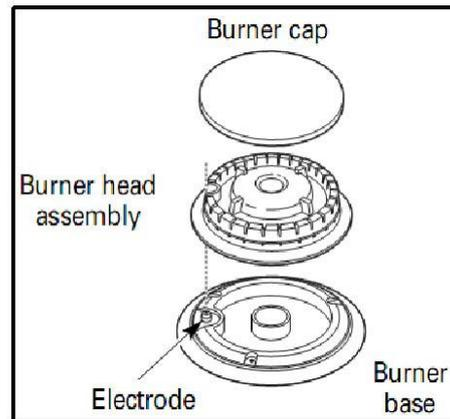

Figure 1
- Place a burner cap on each burner head (see Figure 1 ), matching the cap size to the head size. The cap for each burner has an inner locating ring which centers the cap correctly on the burner head. Be sure that all the burner caps and burner heads are correctly placed BEFORE using your appliance.